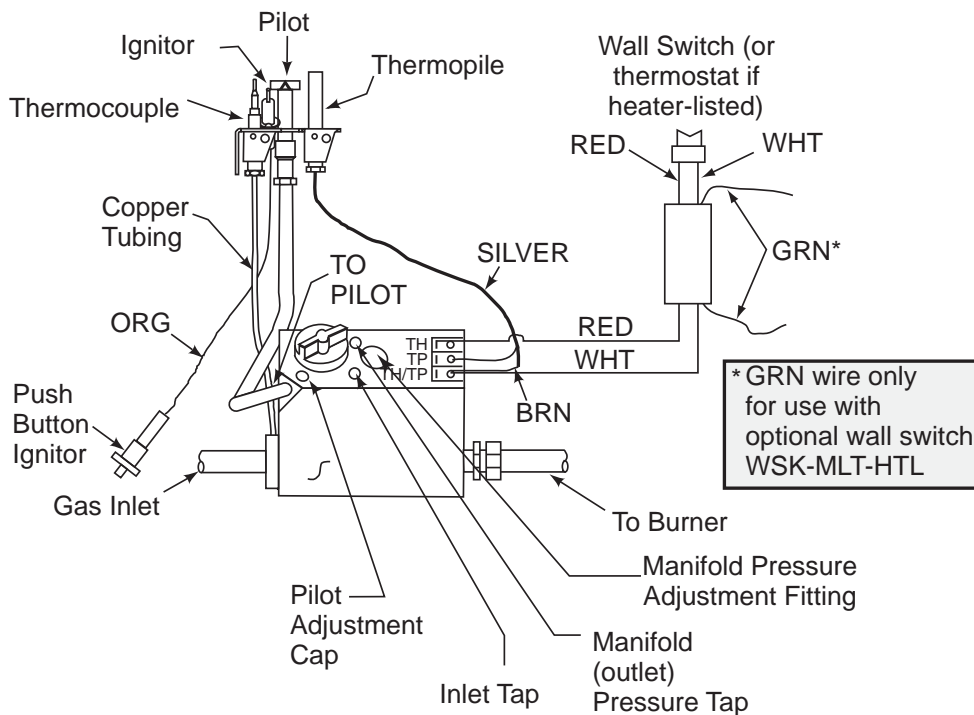

Figure 12.2 Standing Pilot Ignition Wiring Diagram
- A 110 VAC junction box **MUST** be installed for use with a fan or remote control. See Figure 12.2 for junction box wiring. Keep wire lengths short as possible.